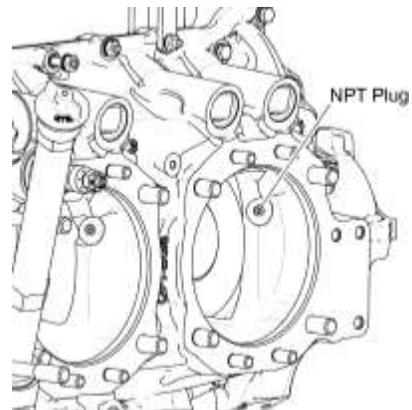

Figure 58
(10) If the gage does not move freely between the ends and under the top of the circlip, the circlip seating is not correct. Install the circlip again and complete a check of the circlip seating again per the previous steps. The circlip must be seated correctly.
B. Install two NPT plugs in each crankcase half (Figure 58).